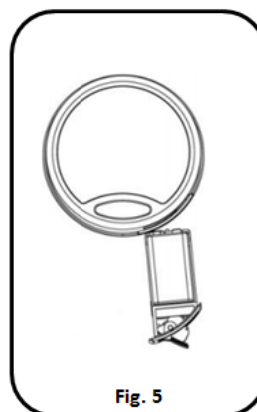

Fig. 5
- Pull out the battery compartment from the bottom of the EntryPad. See Fig 5.